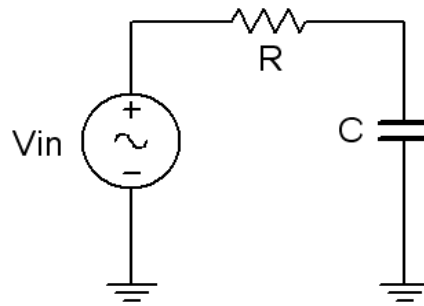

Figure 4.1
1. Using figure 4.1 with $V_{in}=10\text{ V p-p}$ and $R=10\text{ k}\Omega$, and assuming that the reactance of the capacitor is much smaller than 10 k and can be ignored, determine the circulating current using measured component values and record in Table 4.1.
2. Build the circuit of figure 4.1 using $R=10\text{ k}\Omega$, and $C=1\text{ }\mu\text{F}$. Place one probe across the generator and another across the capacitor. Set the generator to a 200 Hz sine wave and 10 V p-p . Make sure that the *Bandwidth Limit* of the oscilloscope is engaged for both channels. This will reduce the signal noise and make for more accurate readings.